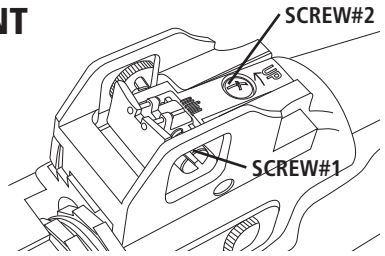

Fig. 3
- If the shot is left of the target, turn the SCREW#1 clockwise. (Fig. 3)
- If the shot is right of the target, turn the SCREW#1 counter-clockwise. (Fig. 3)
- If the shot is too high, turn SCREW#2 clockwise. (Fig. 3)
- If the shot is too low, turn SCREW#2 screw counter-clockwise. (Fig. 3)